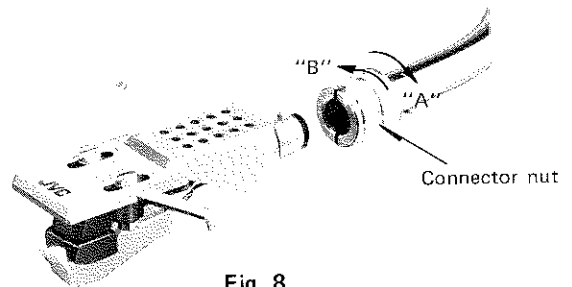

Fig. 8
- Removal and mounting of the headshell (Fig. 8)**